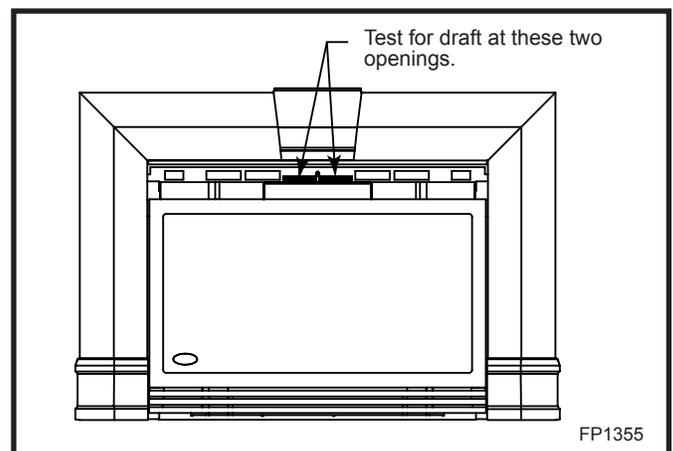

Fig. 12 Hold an ignited match in front of fireplace.
This insert is equipped with a draft-relief opening which receives its dilution air supply through the opening at the back of the insert. These openings must not be obstructed or entered any way. (Fig. 12)
4. Hold an ignited match or cigarette in front of the unit. Refer to drawing for the location of the draft hood opening. (Fig. 12)